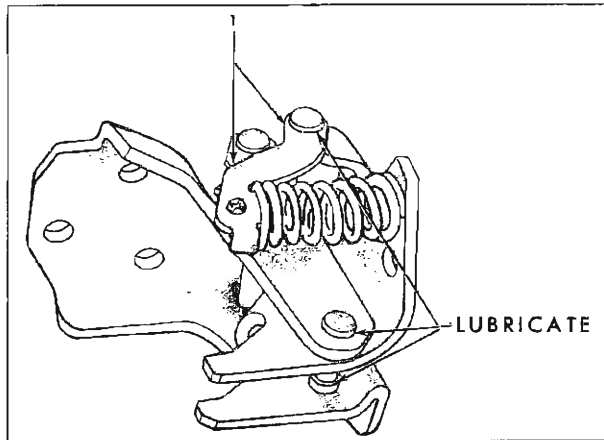

Fig. 2-5—Rear Door Hinge Lubrication
**NOTE:** It is imperative that the contact surfaces of the detent roller and detent lever remain free of lubricant. Lubrication at these points indicated 1 in Figure 2-5, would result in a sliding action instead of the desired rolling action.